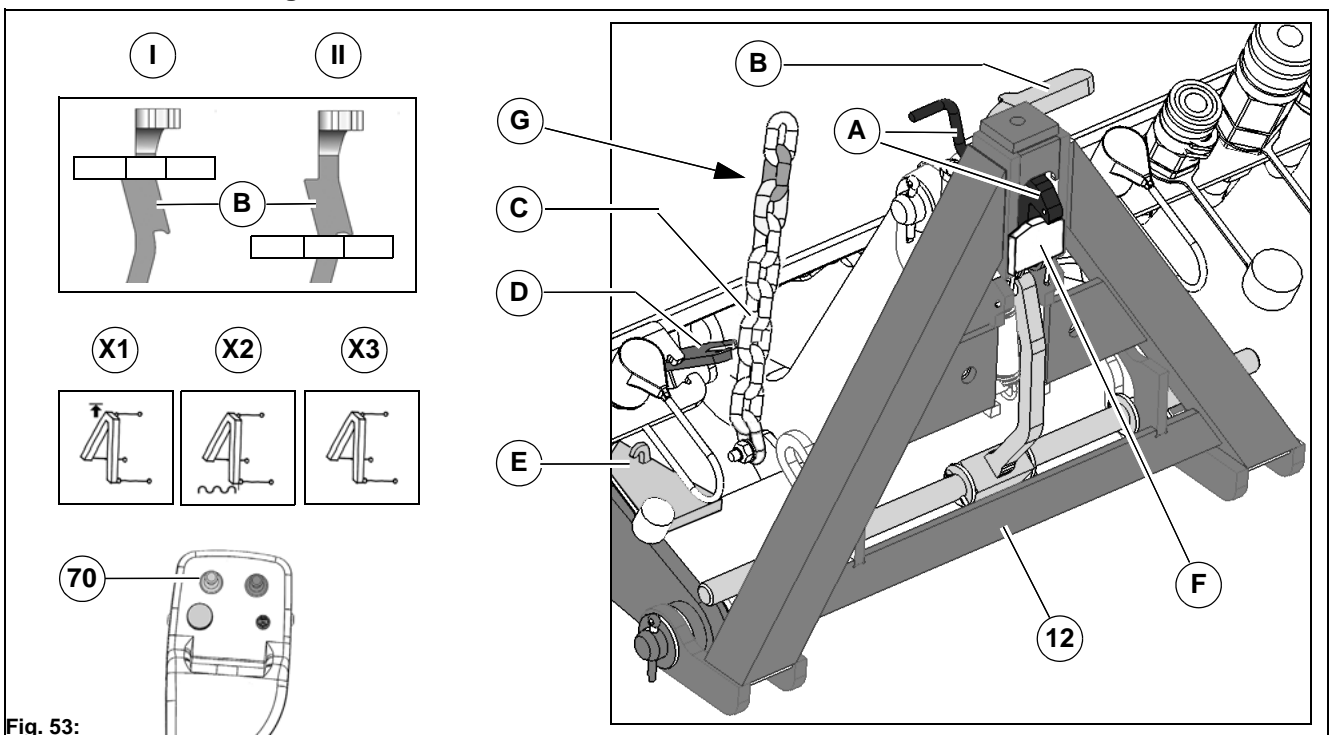

Fig. 53:
2. Bring the locking hook **Fig. 53-A** into the rear position and the lever **Fig. 53-B** into the upper position (**II**). Pick up the chain **Fig. 53-C** and hook in onto the hook **Fig. 53-E**.
- For sweeping hook the chain **Fig. 53-C** onto the holder **Fig. 53-D**. Observe the hooking point **Fig. 53-G!**
- For attachments with floating position the chain must be hooked onto the hook **Fig. 53-E!** (parking position)
6. Check the locking plate **Fig. 53-F** on the attachment. If necessary, loosen the screws and shift the locking plate.
- Upper end position **Fig. 53-X1**
- Floating position **Fig. 53-X2**
- Lowered and fixed **Fig. 53-X3**